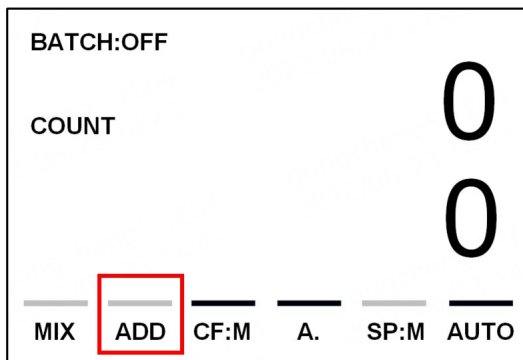

Figure 21
1) The horizontal line above the "ADD" character in the lower left corner of the display screen is gray, indicating that the accumulation function of the machine has been turned off at this time, as shown in Figure 21 below.